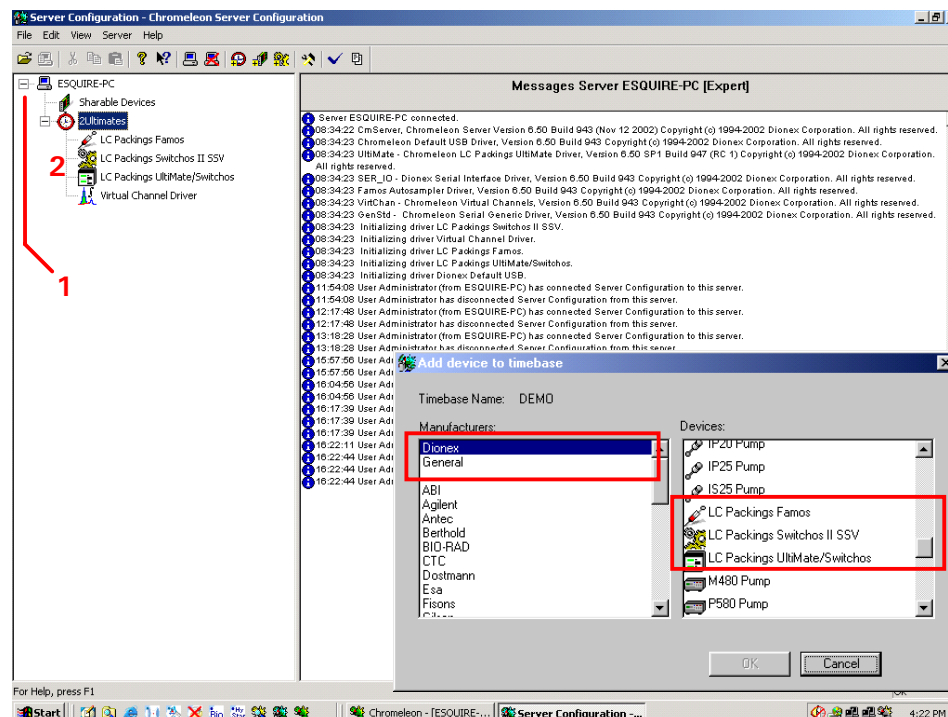
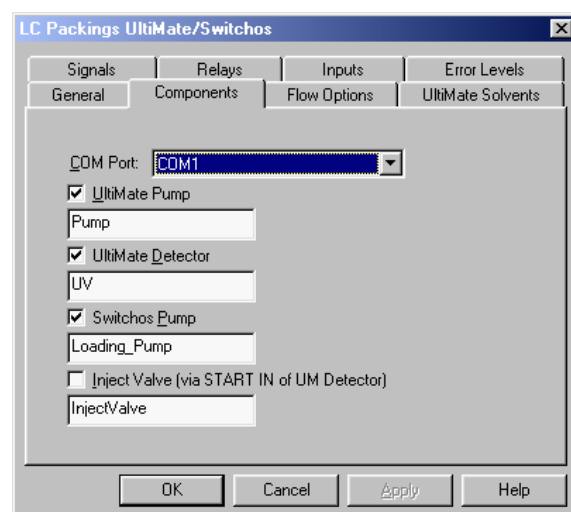
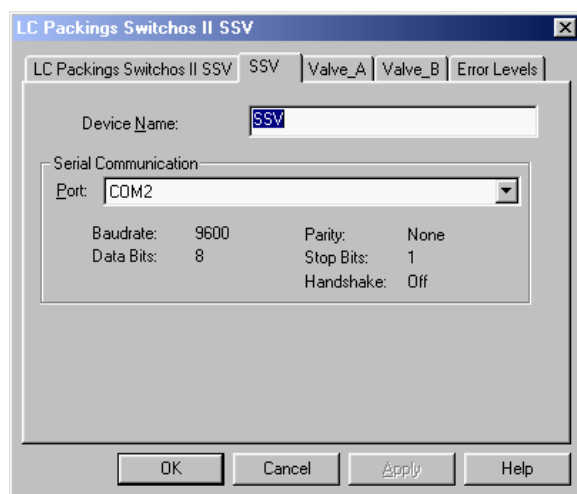

FIGURE 4-1 The Server Configuration Box
FIGURE 4-2 The UltiMate Configuration Box – Components Tab
FIGURE 4-3 The Switchos II Configuration Box
- b) Double-click on the 'LC Packings UltiMate/Switchos' device (item 2, FIGURE 4-1). The *LC Packings UltiMate/Switchos* box appears (FIGURE 4-2).
- a) Add the 'LC Packings Switchos II SSV' device to the Timebase (FIGURE 4-1). This will present the *LC Packings Switchos II SSV* configuration box (FIGURE 4-3).
To verify or change the configuration, double-click on the 'LC Packings Switchos II SSV' device (item 2, FIGURE 4-1).
A typical setup is presented FIGURE 4-1.